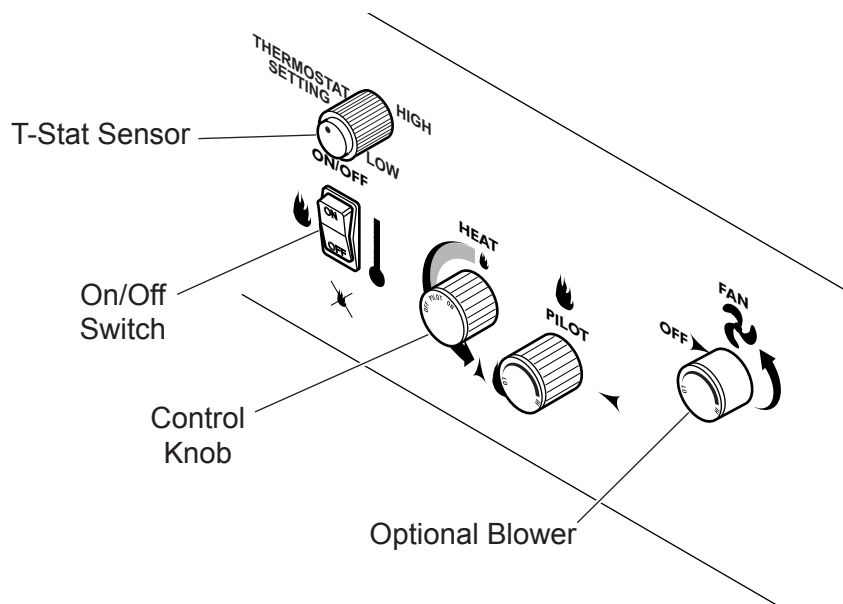

Figure 11 - Control Knob in "ON" Position and ON/OFF Switch in "OFF" Position
2. With control knob in the "ON" position make sure the ON/OFF switch is in the "OFF" position. *See Figure 11.*